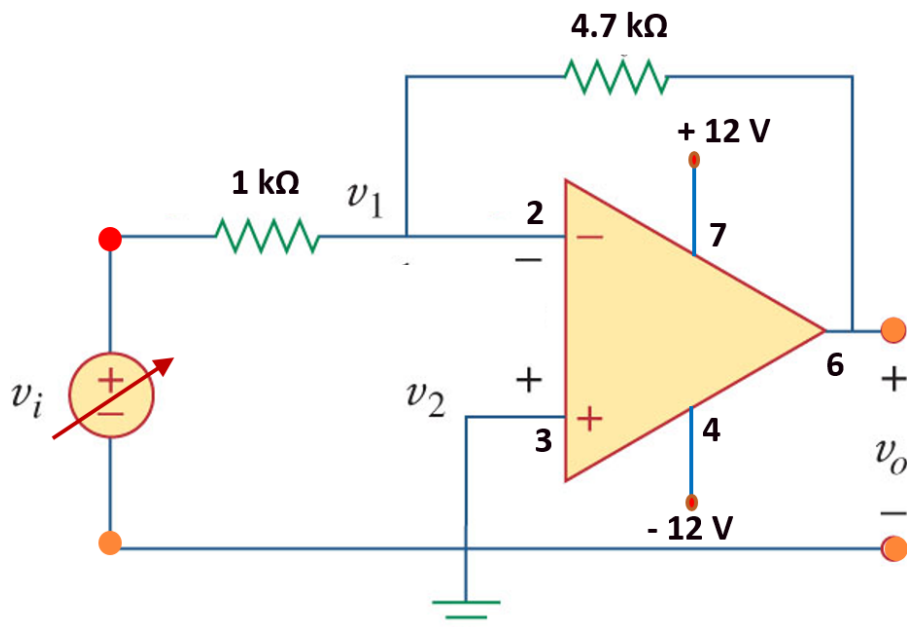
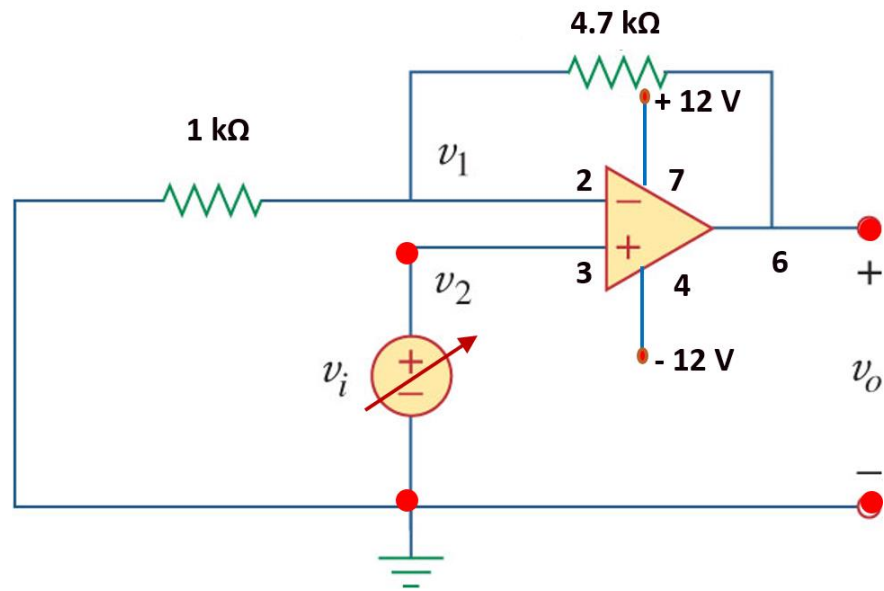

Fig. 3 Inverting Amplifier
Fig. 4 Non-inverting Amplifier
Inverting and non-inverting amplifiers using op-amp are shown in Fig. 3 and Fig. 4
- 1. Connect the circuit as per the diagram shown in Fig. 3.
- 1. Connect the circuit as per the diagram shown in Fig. 4.